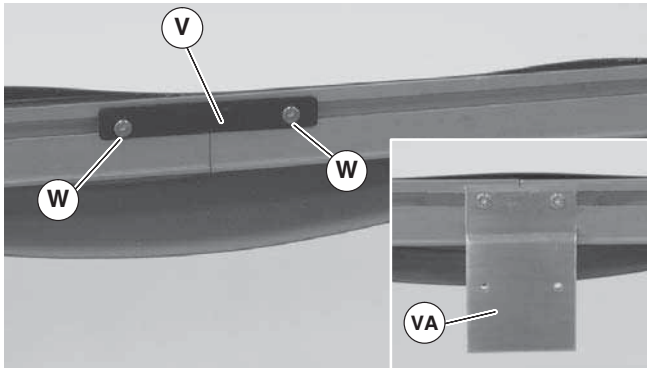

Figure 7
4. Join conveyor sections and install connector brackets (Figure 7, item V) or connector/mount brackets (VA) and screws (W) on both sides as indicated. Tighten screws to 60 in-lb (7 Nm).